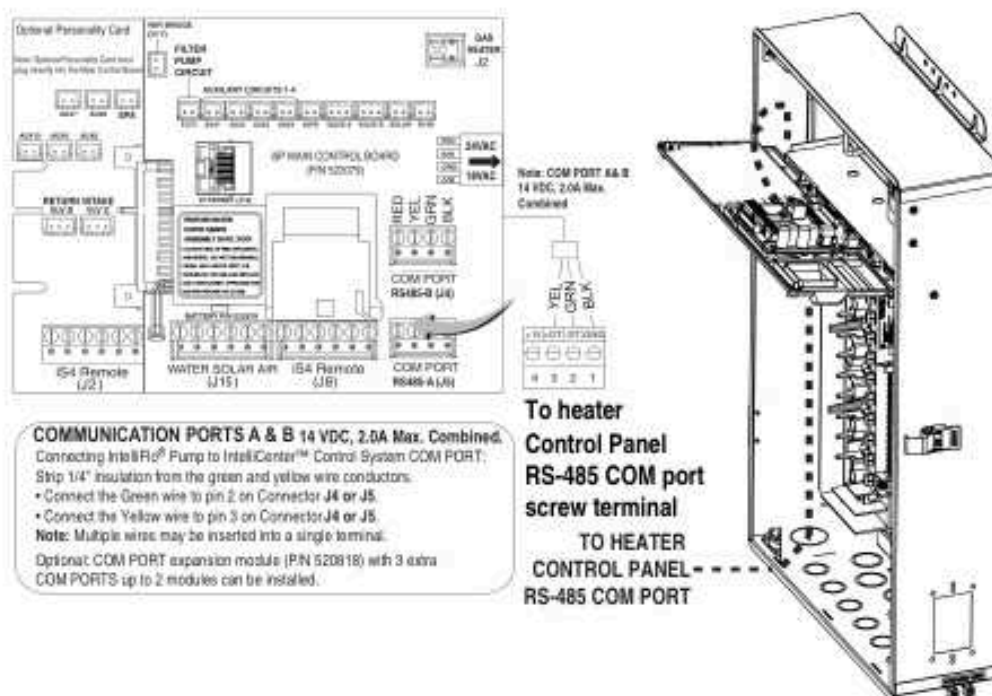

Figure 35.
4. Run the RS-485 cable from the heater's control board RS-485 COM port terminal connector to the Load Center or Power Center. See wiring connection Figure 35 on next page.